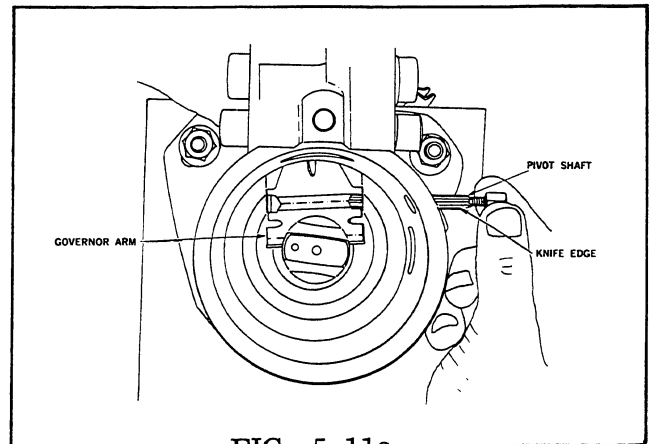

FIG. 5.11a
**STEP 11** Place the governor arm in position in the housing with the fork for the governor linkage hook assembly facing the rear of the pump. Insert the pivot shaft (knife edge facing the rear of the pump), in the arm slot (Fig. 5.11a).